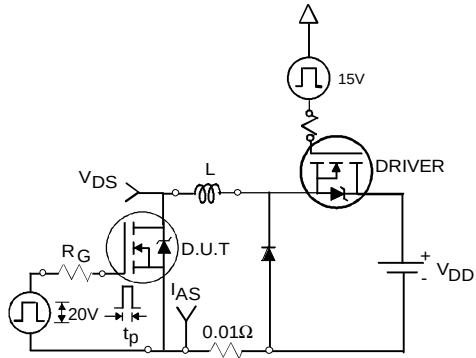

Fig 12a. Unclamped Inductive Test Circuit
- ② Starting $T_J = 25^\circ\text{C}$, $L = 0.97mH$, $R_G = 25\Omega$, $I_{AS} = 34A$ (See Figure 12a)
- ③ $I_{SD} \leq 34A$, $di/dt \leq 510A/\mu s$, $V_{DD} \leq V_{(BR)DSS}$, $T_J \leq 150^\circ\text{C}$.
- ④ Pulse width $\leq 400\mu s$; duty cycle $\leq 2\%$.
- ⑤ $C_{oss \text{ eff.}}$ is a fixed capacitance that gives the same charging time as C_{oss} while V_{DS} is rising from 0 to 80% V_{DSS}